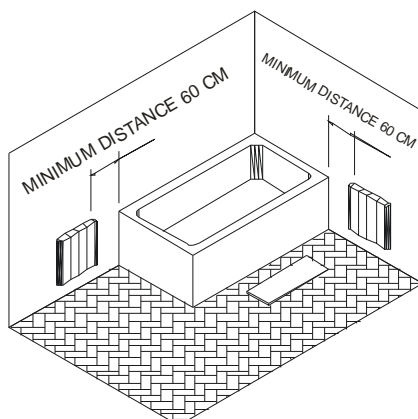

Figure 1
- The appliance must be installed so that its switches and other controls are out of reach of a person in a bath or shower (Figure 1)